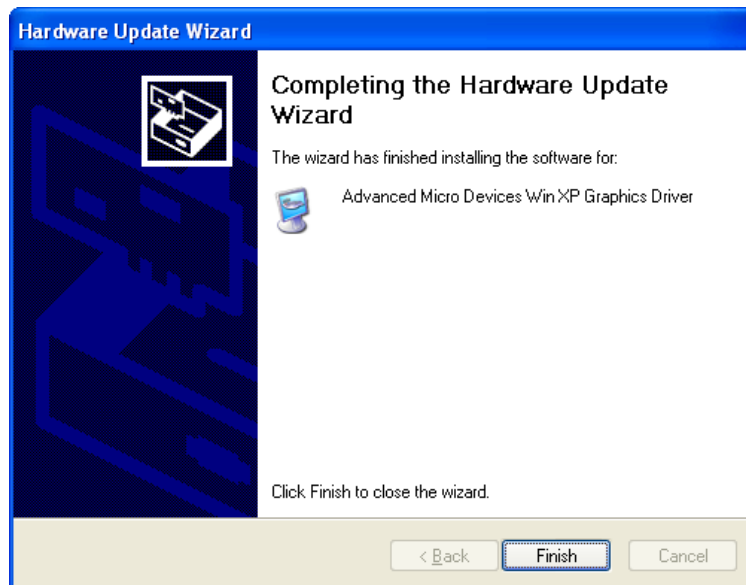

Figure 7-16: Driver Installation Complete Window
Step 22: After the driver installation process is complete, a confirmation screen appears (Figure 7-16).